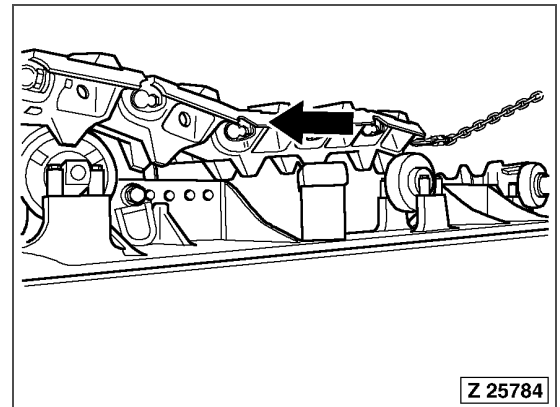

Fig. 4-4
- Drive the excavator and the dozer backwards slowly and unroll the track group from the excavator (Fig. 4-4).